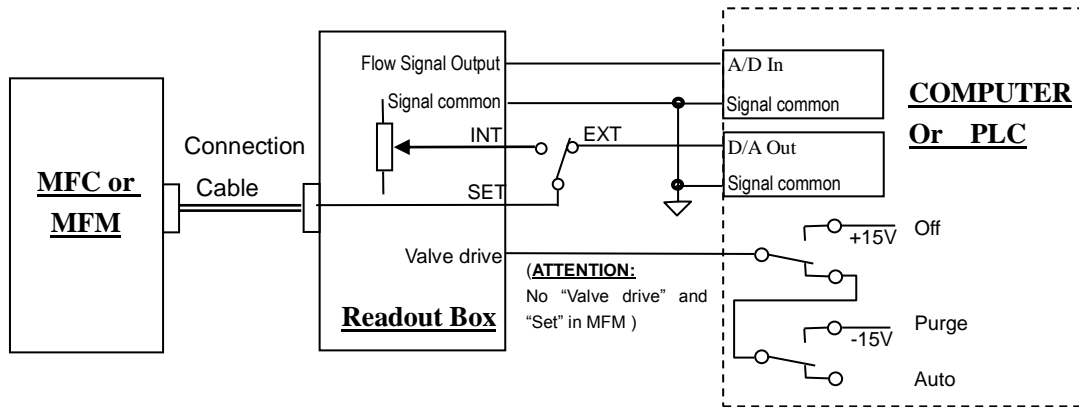

Figure11. Connection with PC through Readout Box
- a. Connection through Flow Readout Box with PC or other external signal. (Figure 11)
Please find the reference in Figure 1 and Figure 11, it should set the switch of displayer to the EXT and turn switch to the AUTO position, and then startup PC.